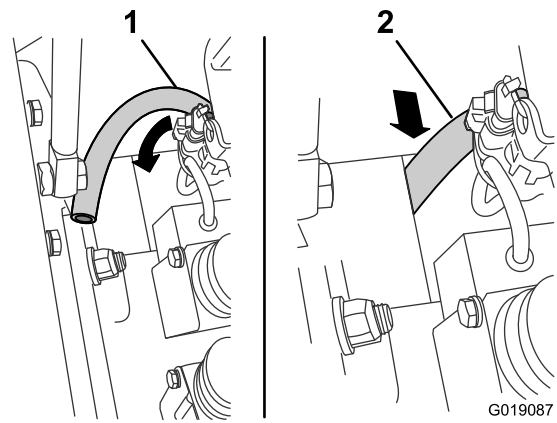

Figure 56
4. Wipe the end of the drain hose, pull the hose into the engine compartment, and place it in the stowed position (Figure 56).